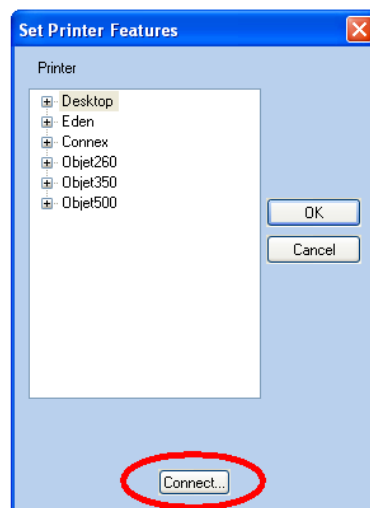

Figure 5-81 Connecting to a printer (A)
2. In the *Set Printer Features* dialog box, click **Connect** (see Figure 5-81 on page 5-69).